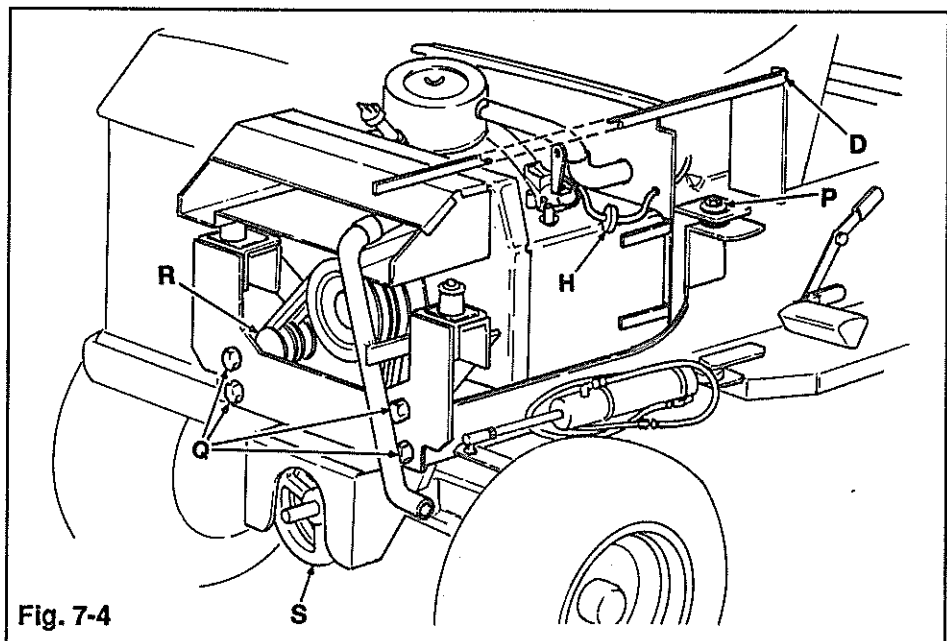

Fig. 7-4
11. Loosen and remove the two rear engine mount bolts (P, Fig. 7-4), noting the location of the two (2) thick and one (1) thin flat washers in each mount prior to disassembly.
12. Apply sufficient tension to the hoist to slightly lift the rear mounts. Remove the four (4) 3/8" capscrews (Q) retaining the front engine mount plate to the front end of the frame rails.
13. Lower the engine until it rests on the frame rails. Shift the PTO idler pulley (R) to further relax tension on the PTO belts, and remove the belts from the clutch pulley. Move the belts clear of the clutch area by pulling them downward from the lower sheave (S).